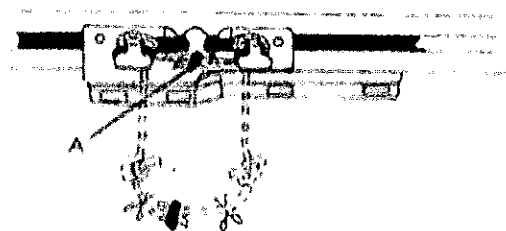

Fig. 10: TAKING UP CORD SLACK
Next, grasp cord-joining clip "A" behind the overlap master carrier (Fig. 10) and pull out enough cord to take up slack between the rod and the cord-tension pulley. Cut off cord-joining clip and knot each cord end as close as possible to the overlap master carrier. Cut off excess cord beyond knots. Rotate pulley head until tabs (M) drop back into tube, letting tension fall on cord. Rotate pulley head, if necessary, until cords are in proper alignment and untwist.